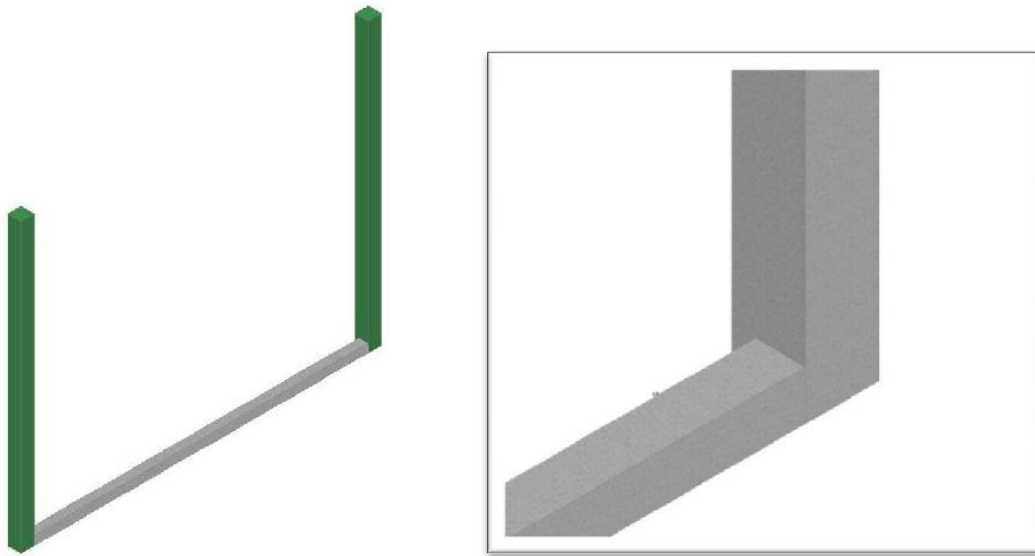

Figure 3: 3D figure of U-shape (left) and 3D image of 2x2cm square pipe flush with 3x3cm square pipe (right)
2.1. Weld a 3x3cm 63cm long square pipe to each end of the 2x2cm 73cm long piece of square pipe. This will result in a U-shape as in the images shown below. Be sure to make the 2x2cm square pipe flush with the inside edges of the 3x3cm square pipe (See Figure 3).